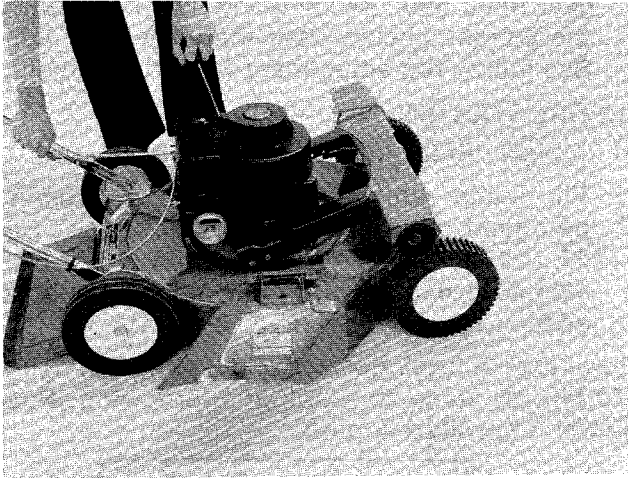

FIGURE 11.
4. Place foot on left side of deck and hold handle to prevent tipping the unit. Grasp starter handle as shown in figure 11 and pull out rapidly. Return it slowly to the engine. Repeat if necessary.